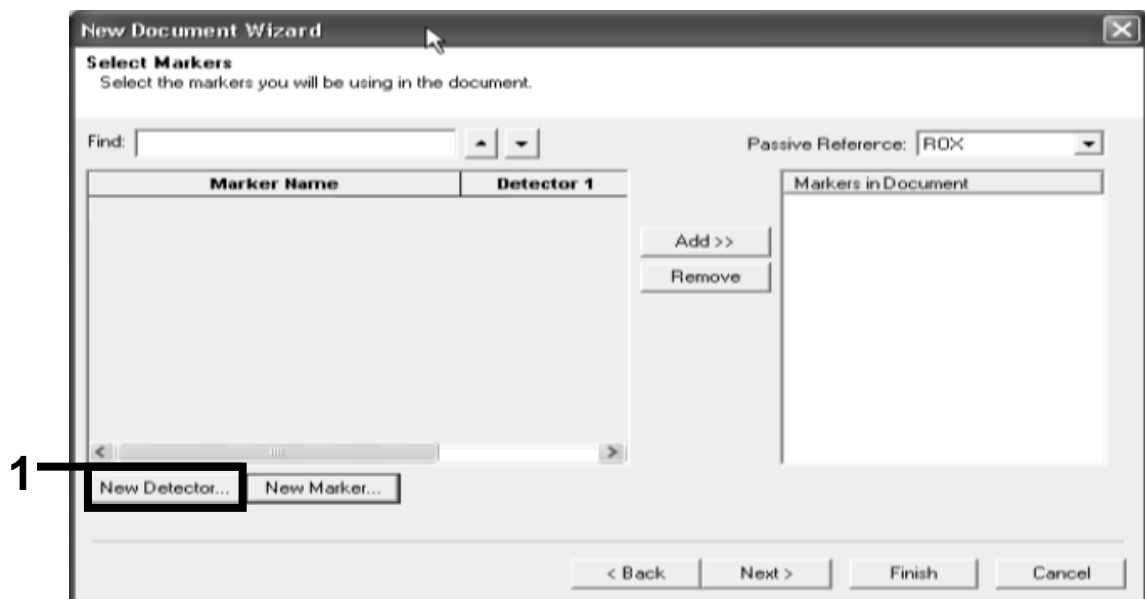

Figure 14. The “Markers in Document” panel does not contain a suitable marker for your application.
15. Create detectors and markers as follows. Click “New Detector” (Figure 14).
18. Click "New Marker" in the "Select Markers" dialog box (see Figure 14).